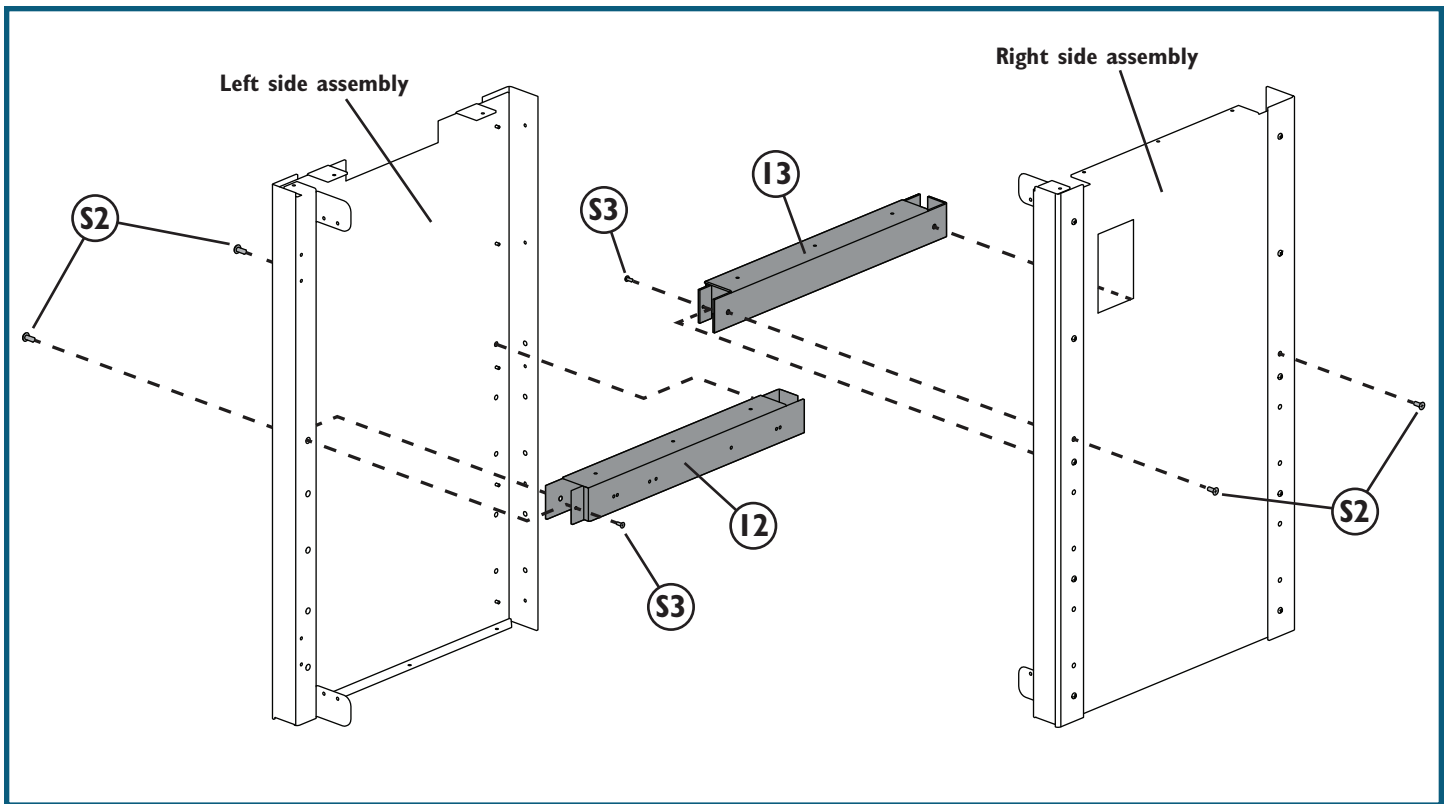

Fig. 4
5. Fit the Left Drawer Slide Bracket (12) between the Left Front Corner Bracket (8) and Rear Corner Bracket (7) and up against the Left Side Panel (9). Align the Left Drawer Slide Bracket with the top set of **large** mounting holes in the Left Side Panel assembly. Attach to the Left Side Panel assembly with two M6 x 1/2" Pan-Head Self-Tapping Screws (S2) driven from the outside of the assembly and one M4 x 3/8" Flat-Head Self-Tapping Screw (S3) driven through the inner face of the Left Front Corner Bracket and into the shorter tab at the front of the Drawer Slide Bracket. **Figs. 4 and 5.**
6. Fit the Right Drawer Slide Bracket (13) between the Right Front Corner Bracket (10) and Rear Corner Bracket (7) and up against the Right Side Panel (11). Align the Right Drawer Slide Bracket with the top set of **large** mounting holes in the Right Side Panel assembly. Attach the bracket to the Right Side Panel assembly with two M6 x 1/2" Pan-Head Self-Tapping Screws (S2) driven from the outside of the assembly and one M4 x 3/8" Flat-Head Self-Tapping Screw (S3) driven through the inner face of the Right Front Corner Bracket and into the shorter tab at the front of the Drawer Slide Bracket. **Figs. 4 and 5.**